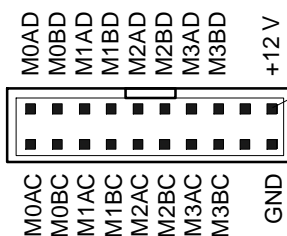

Fig. 13: Auxiliary
16. **J13** – Auxiliary distribution module connector – wires C and D of interfaces in connectors (1)...(4), (see Fig. 13).